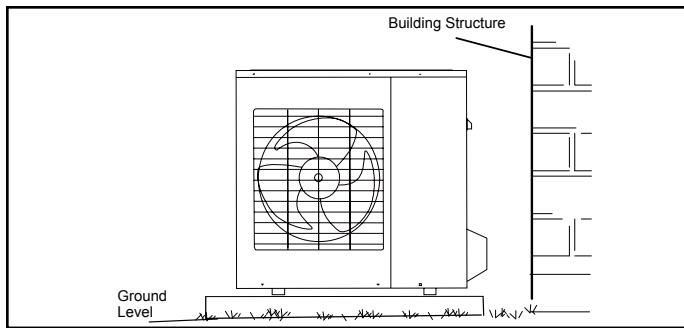

Figure 21. Install Unit Level
- Place unit away from overhanging roof lines which would allow water or ice to drop on, or in front of, coil or into unit. Construct a canopy as illustrated in Figure 21.